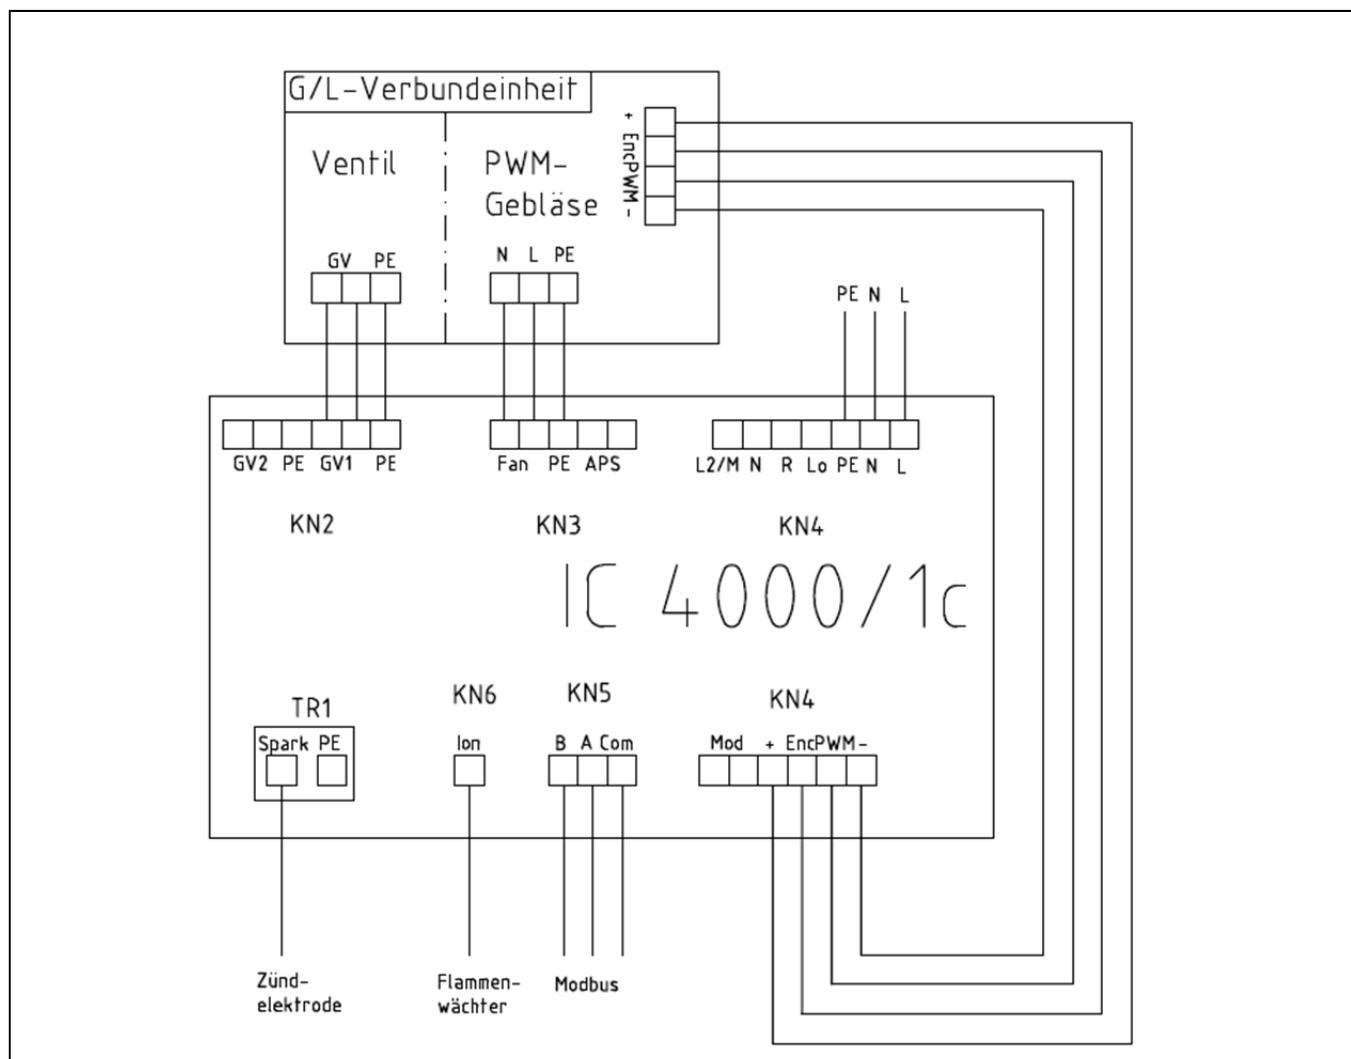

Fig 36: Internal wiring diagram bluTek-burner kit deltaschwank
- ⇒ Route a flexible 3-wire MODBUS cable [max 3 x 0.5 mm²] for the Modbus connection into the free cable gland of the burner control unit IC 4000/1 and connect it according to the connection diagram [Fig 36].